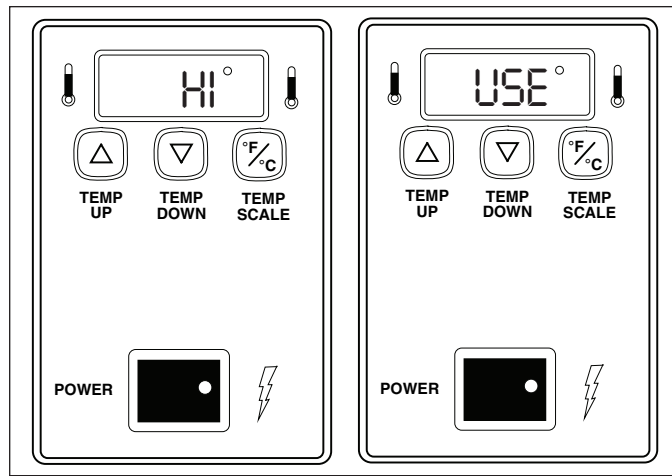

Figure 5. “HI” and “USE” Fault Message
2. Press and hold the **TEMP UP** and **TEMP DOWN** buttons for over 1 second until the display flashes the Platen setpoint temperature (Figure 5), then release.
“HI” and **“USE”** will flash (Figure 5) if the auxiliary heater’s temperature exceeds 440°F (227°C) or if the auxiliary thermocouple is disconnected or open.